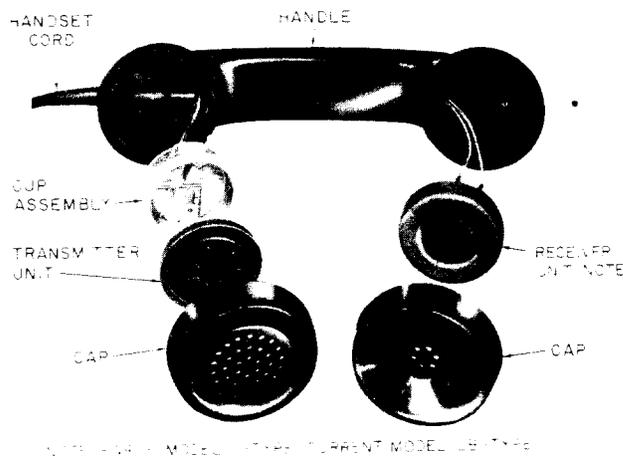

Fig. 1—Nonmodular G Series Handset
2.01 The G-series handset (Fig. 1) consists of a molded handle, receiver unit, transmitter unit, transmitter cup, receiver and transmitter caps, handset cord, and a cotton or polyester acoustical barrier.